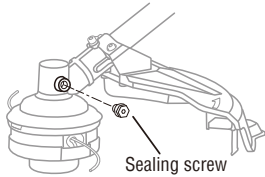

Fig. 10
1. Hold the string trimmer on its side so that the sealing screw is facing upwards (Fig. 10).